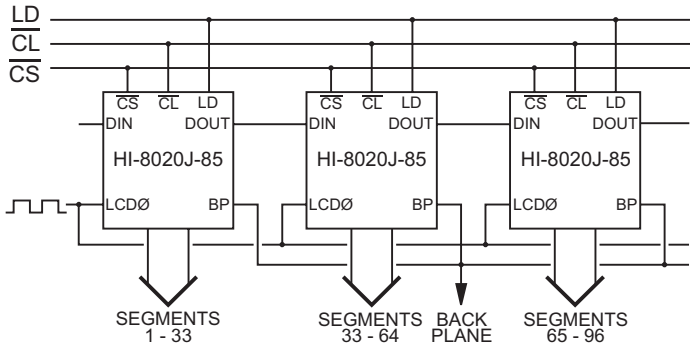

Figure 2
The backplane output functions in 1 of 2 modes; externally driven or self-oscillating. When the LCD $\emptyset$  input is externally driven with the LCD $\emptyset$ OPT input open circuit (Figure 2), the backplane output will be in-phase with LCD $\emptyset$ . Utilizing the self-oscillating mode, inputs LCD $\emptyset$  and LCD $\emptyset$ OPT are tied together and connected to an RC circuit (Figure 3). A 150K $\Omega$  resistor with a 470pF capacitor generates an approximate backplane frequency of 100Hz. The LCD $\emptyset$ /LCD $\emptyset$ OPT oscillator frequency is divided by 256 to determine the backplane output frequency. The resistor value (R) must be at least 30K $\Omega$  for proper self-oscillator operation.
For displays having a number of segments greater than 38, two or more of the display drivers may be cascaded together by connecting the serial data output (DOUT) from the first driver, to the serial data input (DIN) of the following driver, etc.(See Figures 2 & 3). Data out (DOUT) will change state